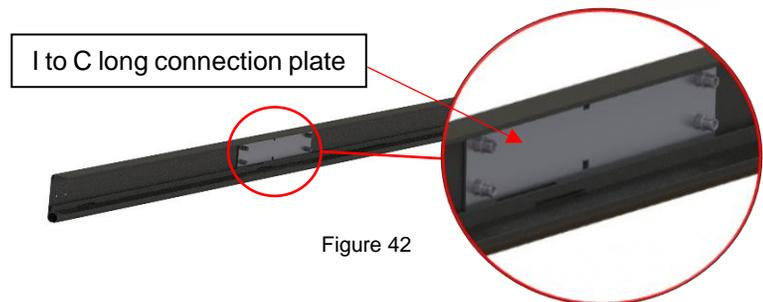

Figure 42
- 3) Pre-assemble the I to C long connection plate with 1/4-20 x 1 in. button head screws and 1/4 washers on the 91 11/16 in. (233 cm) C-channel. (Figure 42) Repeat for the second 91 11/16 in. (233 cm) C-channel.